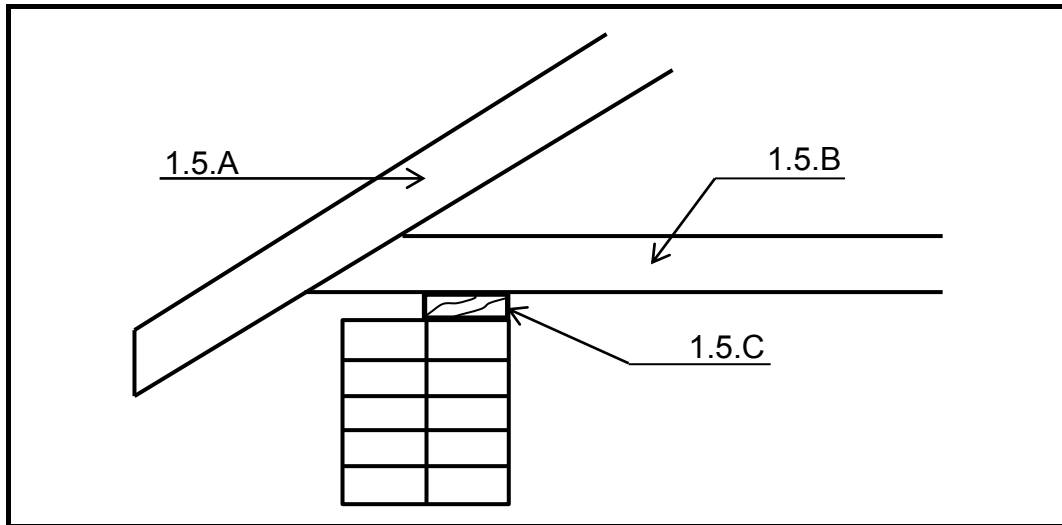

FIGURE 1.5
- 1.5 FIGURE 1.5 shows the uncompleted fixing of a roof truss on a wall. Answer the following questions with regard to the construction in FIGURE 1.5.
- 1.5.4 Identify the wrong installing process of the roof truss in FIGURE 1.5 and describe how the correct installing should be done. (3)